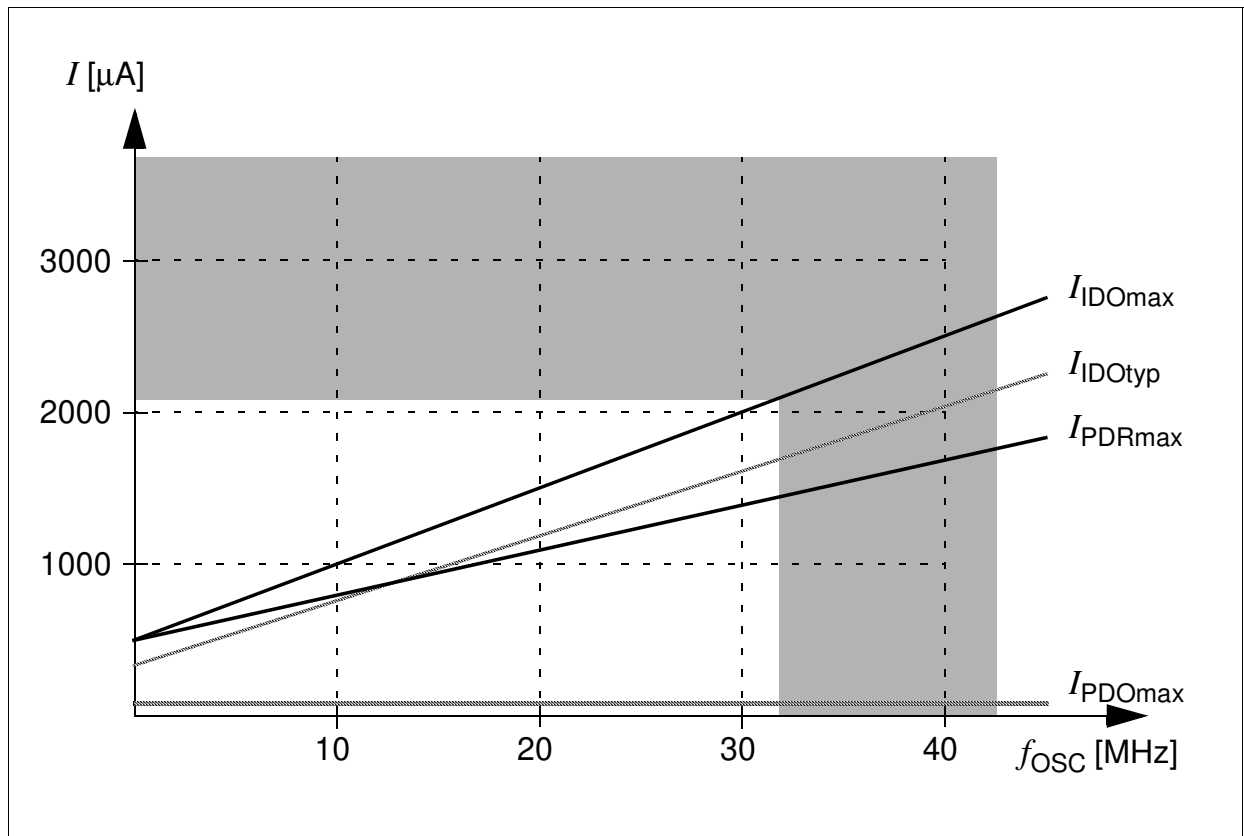

Figure 9 Idle and Power Down Supply Current as a Function of Oscillator Frequency
3) This parameter is determined mainly by the current consumed by the oscillator (see **Figure 9**). This current, however, is influenced by the external oscillator circuitry (crystal, capacitors). The values given refer to a typical circuitry and may change in case of a not optimized external oscillator circuitry (see also application notes AP2420: Crystal Oscillator, AP2424: Ceramic Resonator Oscillator).